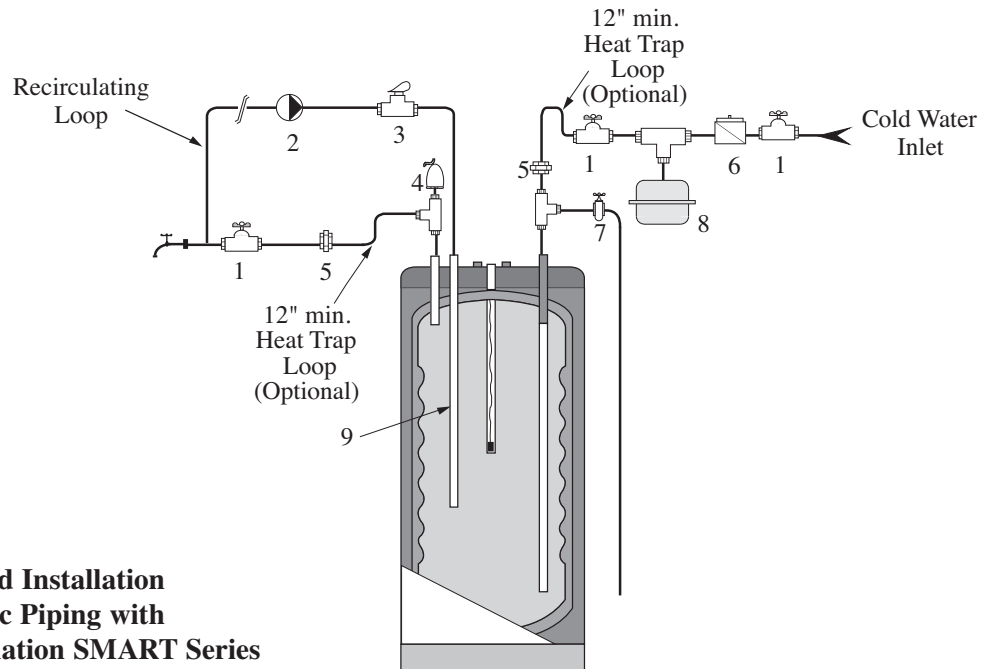

Fig. 2: Standard Installation Domestic Piping with Recirculation SMART Series
- It is recommended that the recirculation dip tube be installed in auxiliary connection using a close nipple assembly as shown Fig. 2, page 8. See Chart 1 page 6 for diameter and length of dip tube.